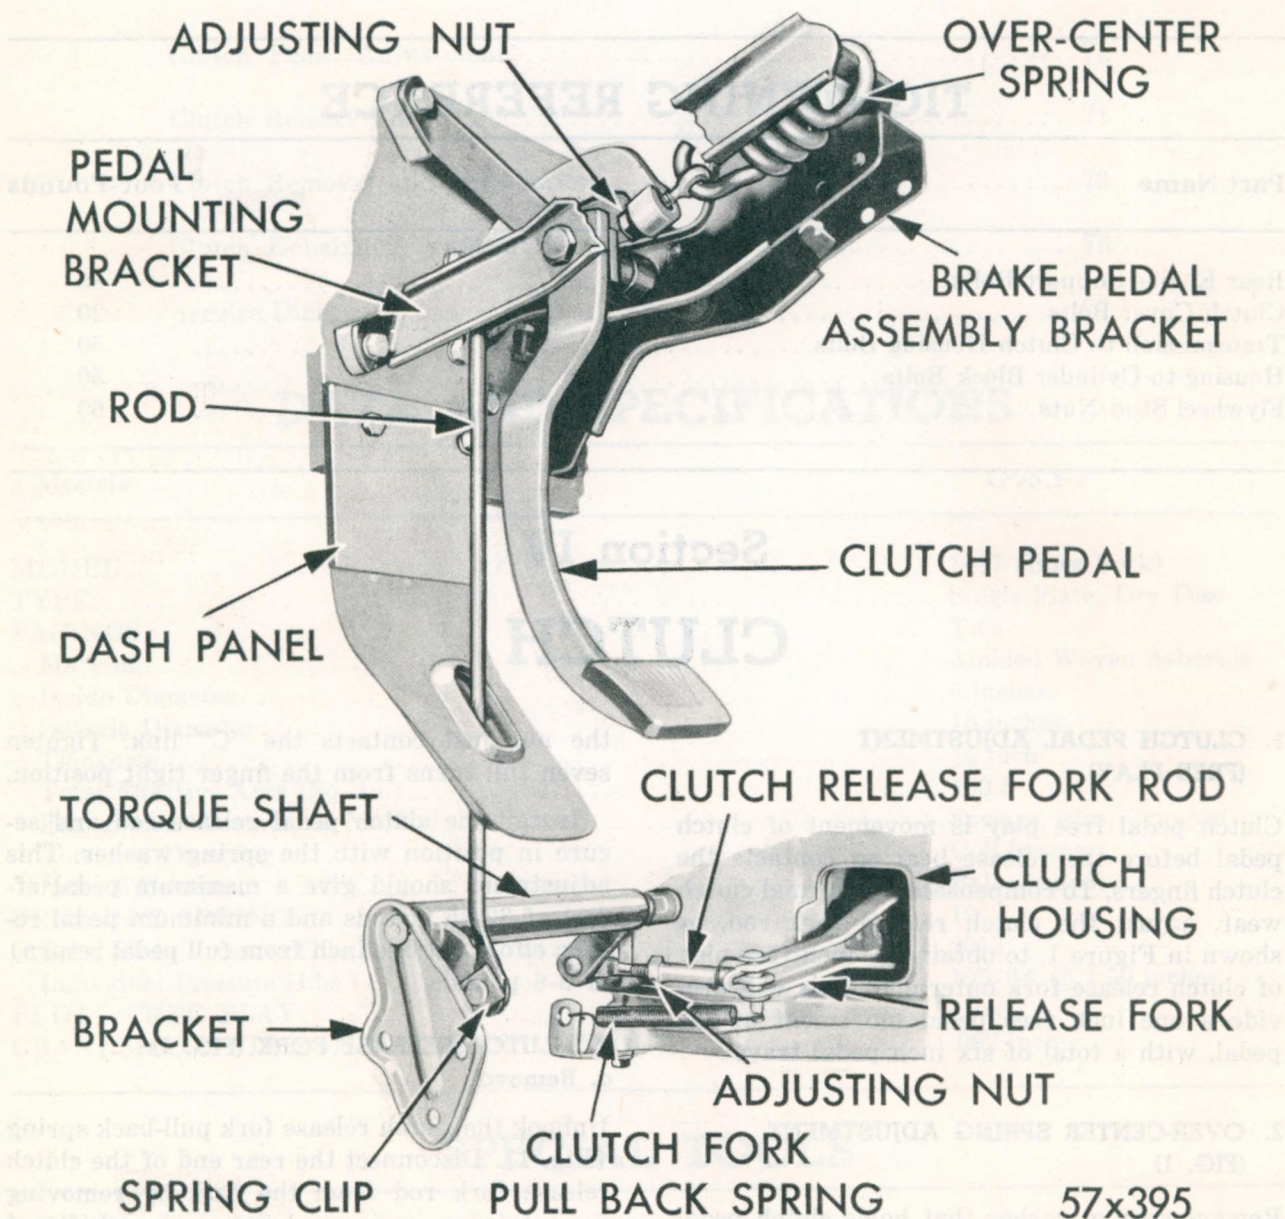

Fig. 1—Suspended Clutch Pedal and Linkage
Clutch pedal free play is movement of clutch pedal before the release bearing contacts the clutch fingers. To compensate for normal clutch wear, adjust the clutch release fork rod, as shown in Figure 1, to obtain $\frac{5}{32}$ inch free play of clutch release fork outer end. This will provide a one inch free pedal movement at the pedal, with a total of six inch pedal travel.
2. OVER-CENTER SPRING ADJUSTMENT (FIG. 1)
3. CLUTCH RELEASE FORK (FIG. 1) a. Removal
Unhook the clutch release fork pull-back spring (Fig. 1). Disconnect the rear end of the clutch release fork rod from the fork by removing the retaining spring and flat washer. Lift out the clevis pin and separate the clutch release fork rod from fork.
4. CLUTCH TORQUE SHAFT AND PIVOT BUSHINGS (FIG. 1)